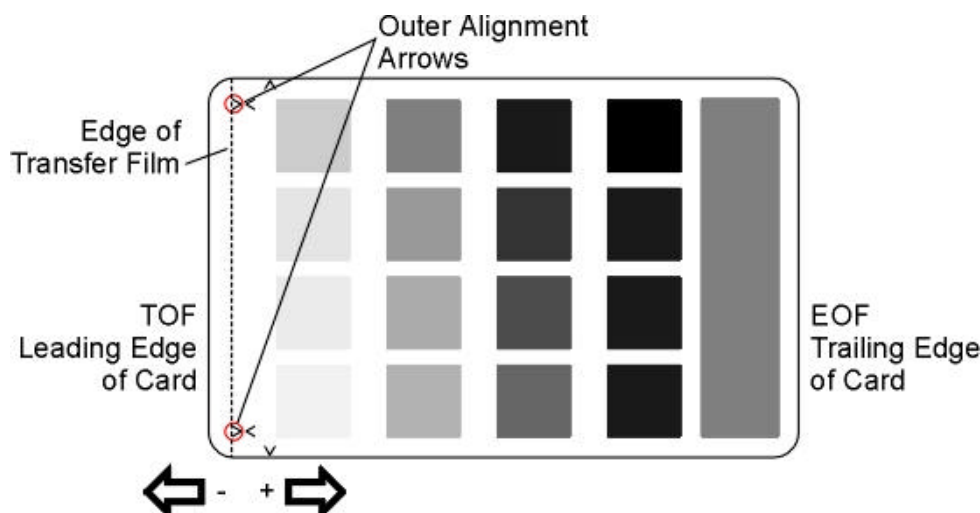

Figure 7-9
2. Examine the test card. The open end of the Outer Alignment Arrows should appear at the edge of the Film (shown below as a dotted line). If your test card does look like Figure 7-9, go to step 5 to adjust the Print Offset.